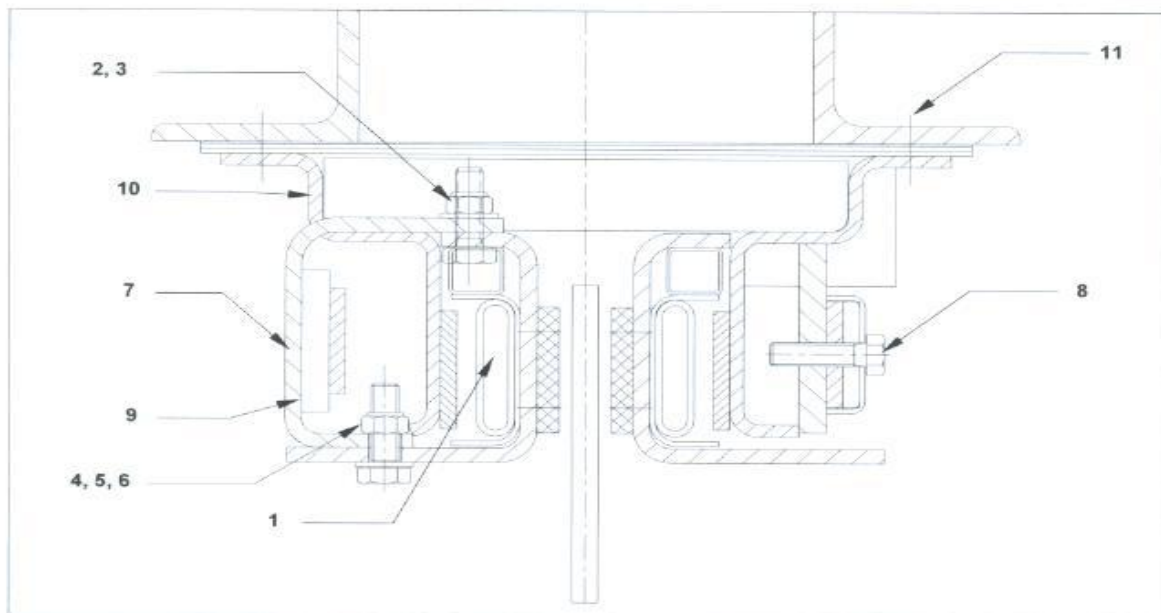

figure 2: Cross section of brake before mounting the steel rod
Vekoma Rides Parts & Services B.V. recommends to build out the complete brake and carry out the modifications in a workshop. Therefore remove the bolts, washers and nuts (figure 2/11).
- 3 Remove the washers and nuts (figure 2/2, 3).
- 4 Remove the bolt, washers and nuts (figure 2/4, 5, and 6)
- 5 Remove the brake shoe supports (figure 2/7).
- 6 Remove the attachment bolts for the leaf springs (figure 2/8).
- 8 Lift and turn the brake shoes (figure 2/9) and take them out of the brake frame (figure 2/10).
- 9 Take out the wind jammer (figure 2/1).